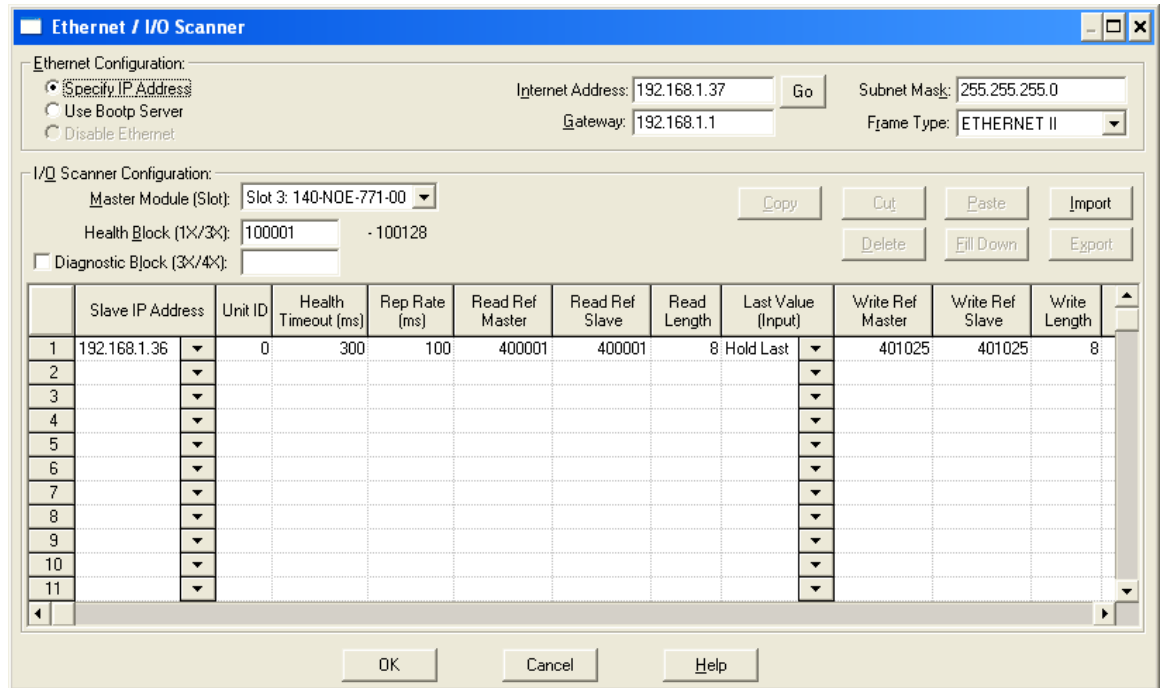

Figure 5-9: Ethernet / I/O Scanner Window
5. Click on the Config Extensions Folder in the center pane, above. The branch will expand to show Ethernet / I/O Scanner. Double click on the Ethernet / I/O Scanner to bring up the details of the Ethernet card (Figure 5-9).
For a more detailed description of each column in the configuration window, click on the Help button (at lower right in Figure 5-9). The following elements must be configured: